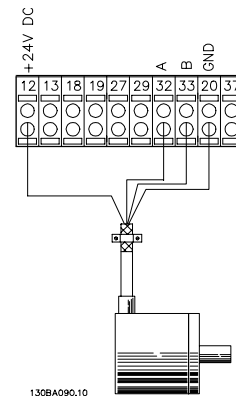

Figure 3.7 Wiring Diagram
1. Verify that the encoder connection is according to Figure 3.7: